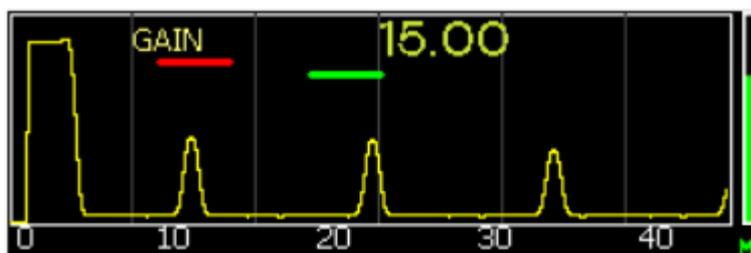

Figure 3.3 – A-scan. Manual gain mode
- gain (if the automatic gain control (AGC) mode is disabled in the Device settings, see paragraph 2.6) – change the gain of the Device. The gain level indicator is displayed on the right side of the screen. (Figure 3.3);